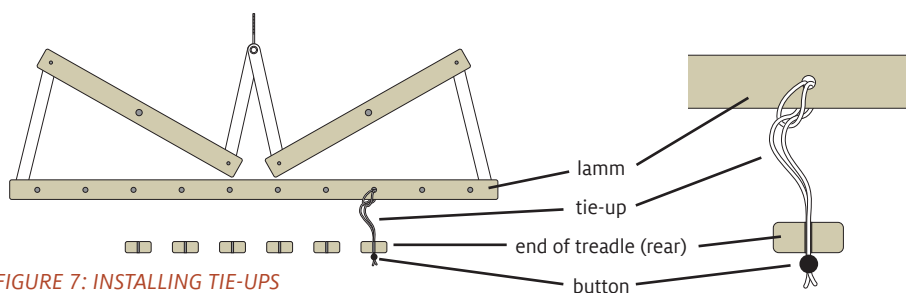

FIGURE 7: INSTALLING TIE-UPS
14. There is one tie-up for every lamm hole. Loop one end of each tie-up through a hole in the lamm (Figure 7).